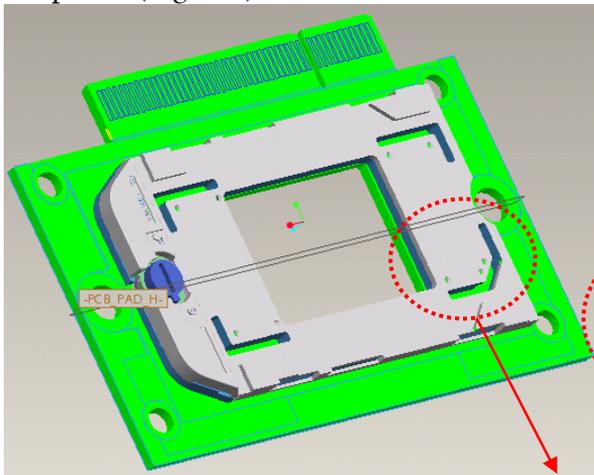

Fig. 8-1
- 8.1. Judge Chip B/D and DMD alignment keying first (Fig. 8-1, 8-2).